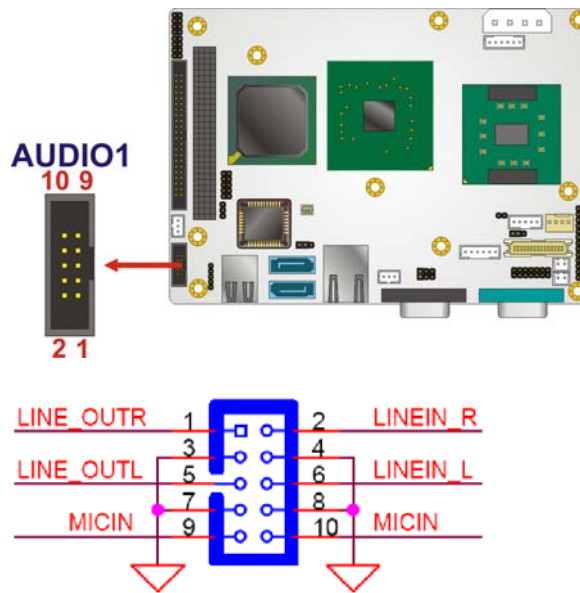

Figure 4-5: Audio Connector Location (9-pin)
- CN Location:** See **Figure 4-5**